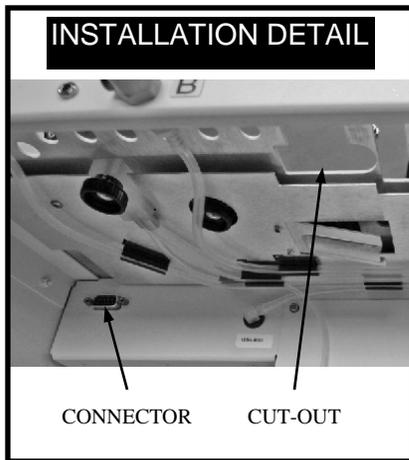

Figure 11-2: Installation Detail for Barcode Scanner
2. Disconnect the cable from the connector below the workspace (Figure 11-2).